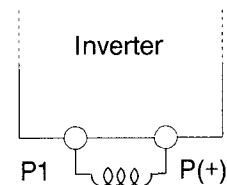

Fig. 6-1-1
- ① These terminals are used to connect an optional power factor correcting DC reactor. These terminals are connected by a short-circuiting conductor at the time of shipment from the factory, so remove this conductor before connecting the DC reactor. (Fig. 6-1-1)